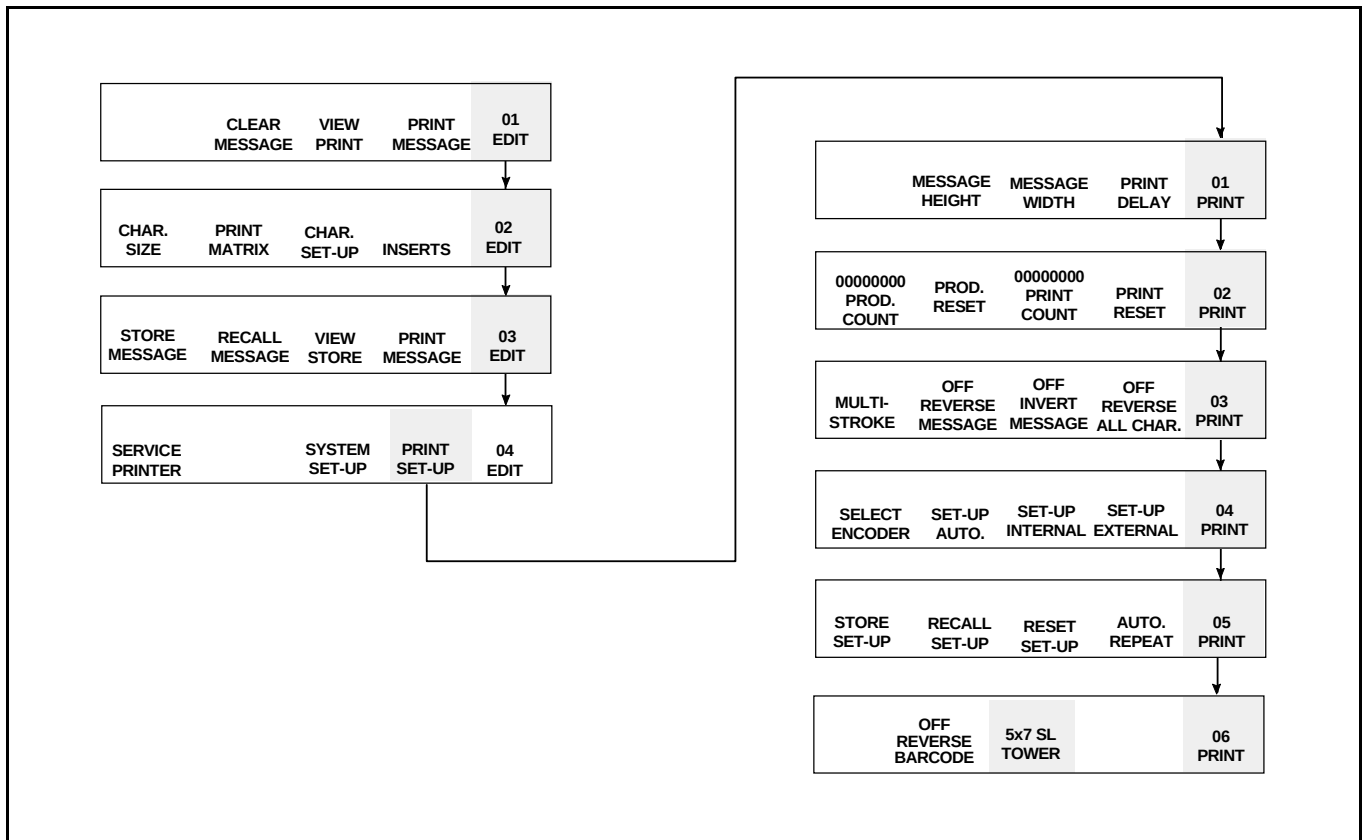

Figure 7-23. Accessing Frame <06 PRINT>
2. Begin in Frame <06 PRINT>. Refer to Figure 7-23.